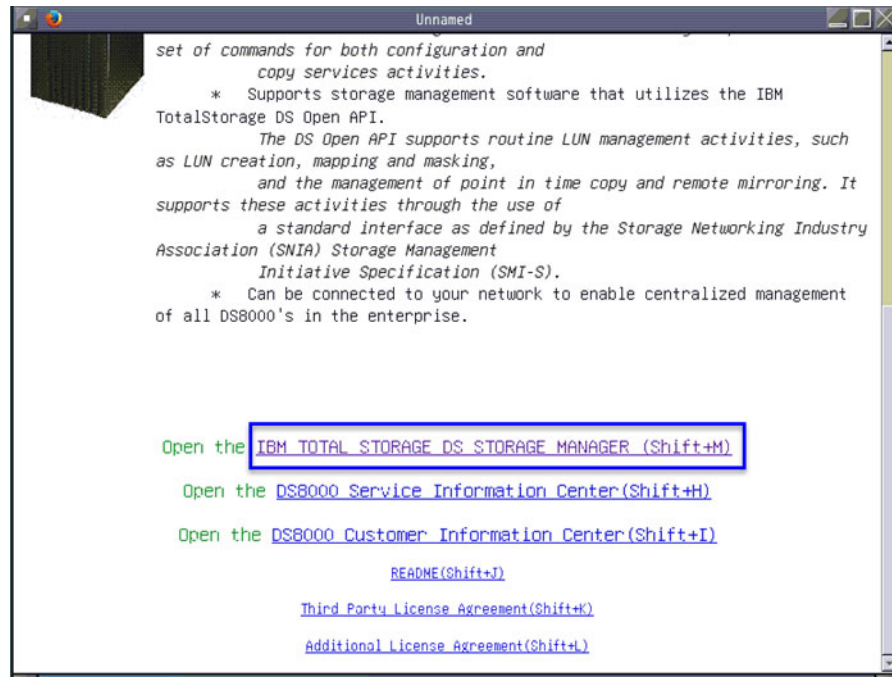

Figure 8-4 Manage Console Welcome page Options
3. Click **Open the IBM TOTAL STORAGE DS STORAGE MANAGER (Shift+M)**. Figure 8-4 provides an illustration.